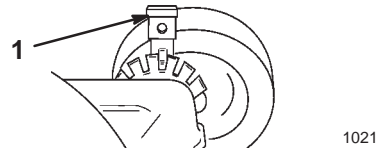

Figure 16
1. Pull the wheel height adjustment lever toward the wheel and move it to the desired position (Fig. 16).